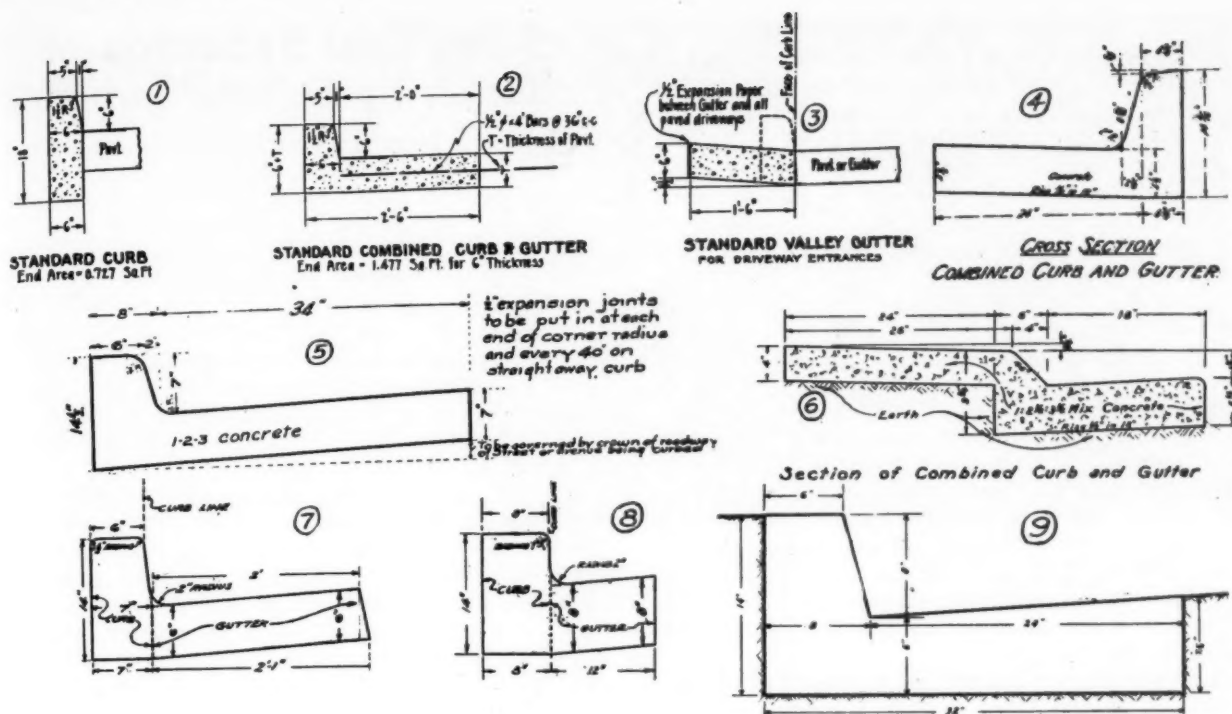

Fig 1. These curbs and gutters are described in the accompanying text.
In Fig. 1, items 1, 2 and 3 were sent us by S. H. Smith, city engineer of South Haven, Mich. The standard curb, as shown, has a slope of 1 inch, and is 6 inches high and 18 inches deep. The combined curb and gutter is pavement thickness plus 6 inches, and extends 2 feet beyond the curb, being tied to the pavement with  $\frac{1}{2}$ -inch round bars, 4 ft. long, spaced 36 inches apart. The standard valley gutter is shown in 3, Fig. 1. Item 4 of Fig. 1 was sent us by Albion K. Vickery, city
engineer of Denver, Colo., as was item 6, just beneath it. The combined curb and gutter (4), is more than 8 inches high and has a slope of  $2\frac{3}{8}$  ins. Item 6, Mr. Vickery says, is a new design for one of their proposed improvements districts, consisting of a narrow walk adjoining a sloping 4-inch curb with an 18-inch gutter. Item 5, Fig. 1, was sent us by F. E. Young, city engineer of Cedar Rapids, Iowa, and the illustration shows all essential information.
Items 7 and 8 of Fig. 1 are from Oakland, Calif. C. A. Reed, street improvement engineer, in an accompanying letter says: "The 6-inch curb and 2-ft. gutter are used on our residence streets, with a penetration macadam pavement, and the 8-inch curb and the 1-ft. gutter are used on our main arteries which may be paved with an asphaltic concrete surface course on either a portland cement base or an asphaltic concrete base. Or the 8-inch curb is cast integrally with the pavement, if of concrete."
Archer B. Stuart, city engineer of Healdsburg, Calif., sent us item 9 of Fig. 1, and states in connection with it: "We carry this same batter around corners with a radius of from 12 to 20 ft. or longer. At present we are constructing 30,100 lineal ft. of this curb and gutter with WPA labor at a cost to property owners of 20 cents per front foot. We use a floated and brushed finish with street names and block numbers stenciled eight times at intersections and often in the middle of long blocks. The mix is five sacks (of cement) per yard of clean natural gravel and sand aggregate, which gives a 3000-pound concrete."